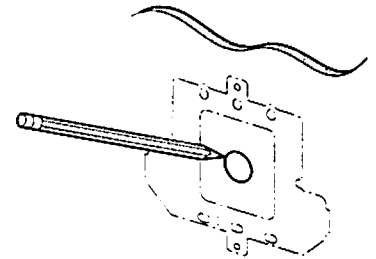

Fig.2: Hole Locations
4. Using a pencil, mark the mounting holes and the large square opening on the center of the plate. (Fig.2)
7. Carefully drill a 3/4-in. hole in the center of the large square marked in step 4.. (Fig.2)